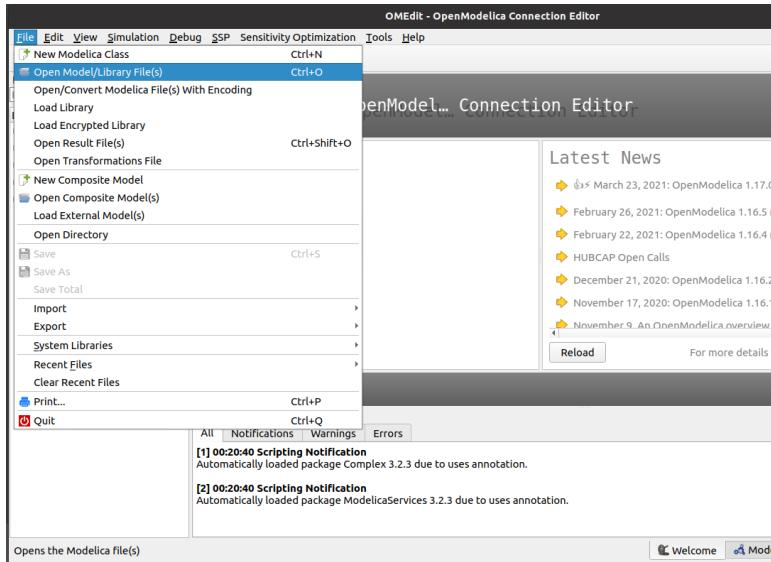

Figure 3.9: Opening a model in OMEedit
The files or models in OpenModelica have ‘.mo’ extensions. Though there are several ways to simulate or run an OpenModelica model, we will execute the models by utilizing the user interface of OMEedit. To open a model in OMEedit, go to the menu bar of OMEedit and click on File -> Open Model/Library File(s), as shown in Fig. 3.9. Then, select the desired model (with ‘.mo’ extension) and click Open. The names of tabs in this book have been mentioned according to
2. After launching, we have to load OpenModelica-Arduino toolbox. To do so, go to the menu bar of OMEdit. Click on File and then click on the Open Model/Library File(s) option as shown in Fig. 3.9.